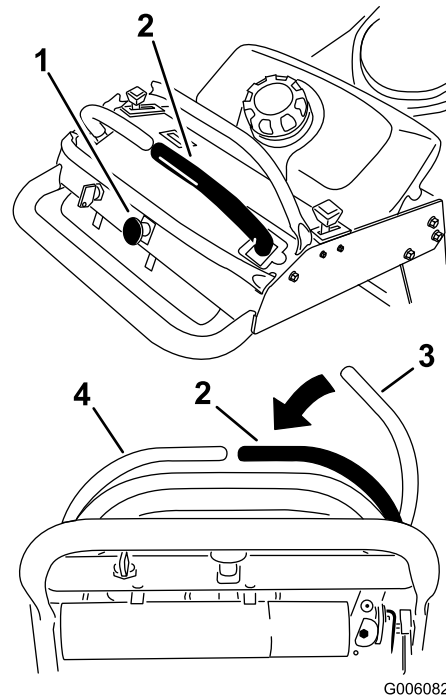

Figure 7
- To engage the mower blades, move the right side motion control lever to the center, un-locked position (Figure 7).